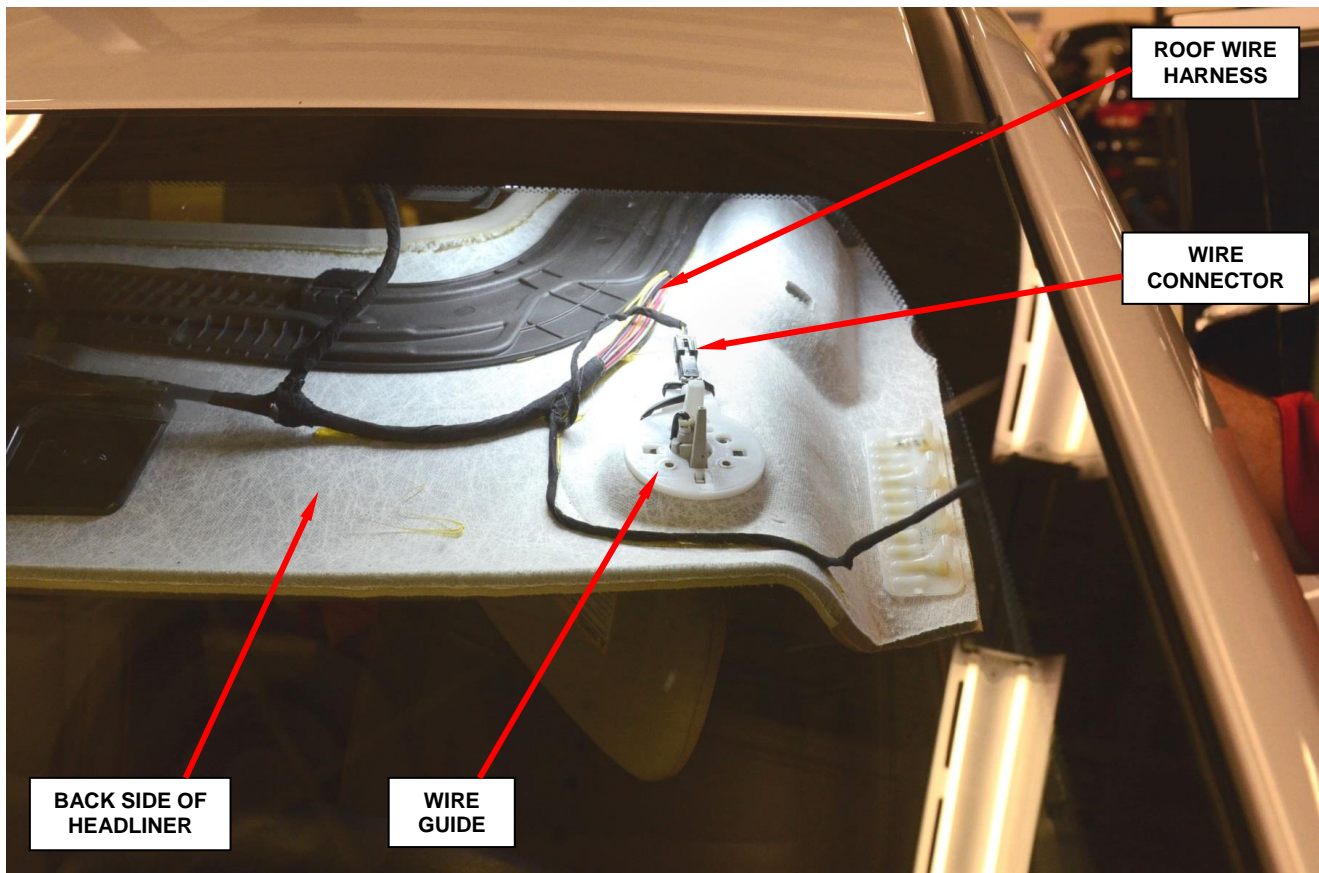

Figure 30 – Wire Guide Connector (viewed through windshield)
57. Connect the roof wire harness connector to the sun visor electrical connector (Figure 30).